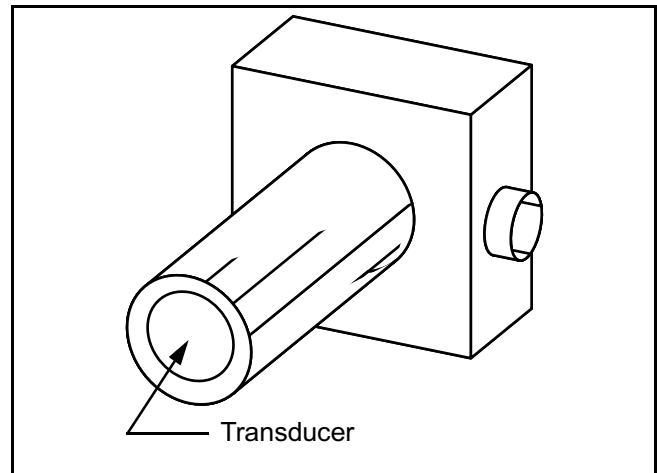

Figure 4 - 39 Cleaning sonic sensor
- 3) Check transducer daily for material buildup. The transducer can be cleaned with contact cleaner or a parts solvent. Place cleaning fluid on a clean rag and rub transducer gently to remove any material. Wipe transducer clean and dry (Figure 4 - 39).